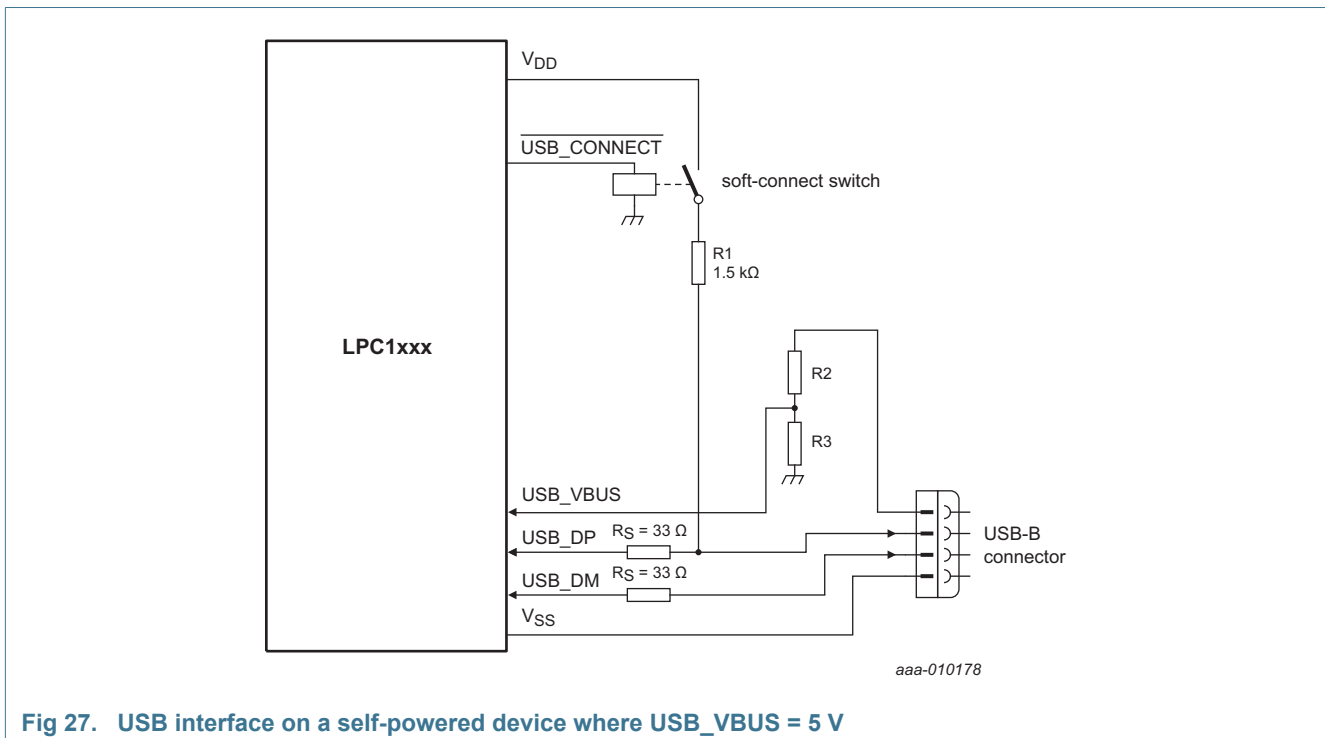
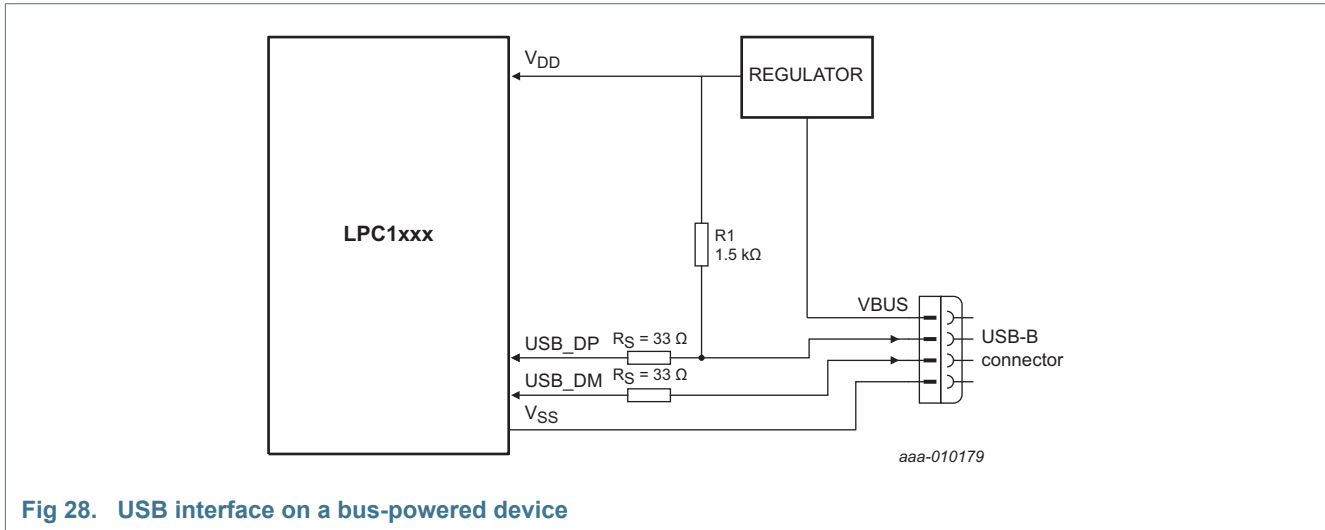

Fig 27. USB interface on a self-powered device where  $USB\_VBUS = 5 \text{ V}$
Fig 28. USB interface on a bus-powered device
The USB device can be connected to the USB as self-powered device (see Figure 27) or bus-powered device (see Figure 28).
For a bus-powered device, the VBUS signal does not need to be connected to the USB\_VBUS pin (see Figure 28). The  $\overline{\text{USB\_CONNECT}}$  function can additionally be connected as shown in Figure 27 to prevent the USB from timing out when there is a significant delay between power-up and handling USB traffic.
**Remark:** When a bus-powered circuit as shown in Figure 28 is used, configure the PIO0\_3/USB\_VBUS pin for GPIO (PIO0\_3) in the IOCON block to ensure that the  $\overline{\text{USB\_CONNECT}}$  signal can still be controlled by software. For details on the soft-connect feature, see the *LPC11U3x user manual* (Ref. 1).